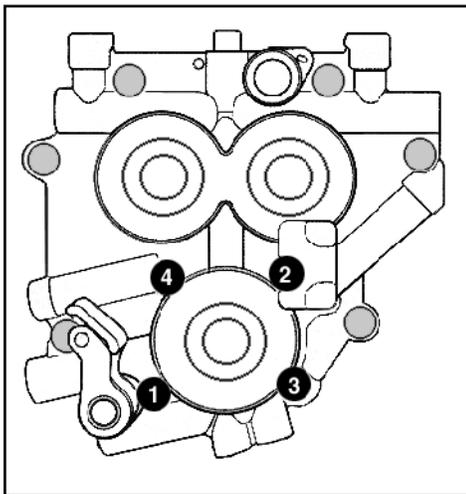

Figure 1
- K. Following sequence shown, alternately loosen and remove oil pump bolts. See Figure 1.
- I. Install oil pump mounting bolts with a drop of Loctite® threadlock 242 or 243 (blue) according to procedure found in factory service manual: Gently bottom screws, then back them out ¼ turn. Center oil pump by rotating engine by hand while snugging down screws. Alternately tighten bolts to 95 in-lbs. torque in sequence shown. See Figure 1. Before moving forward, verify that inner drive gears rotate freely and no binding is present.